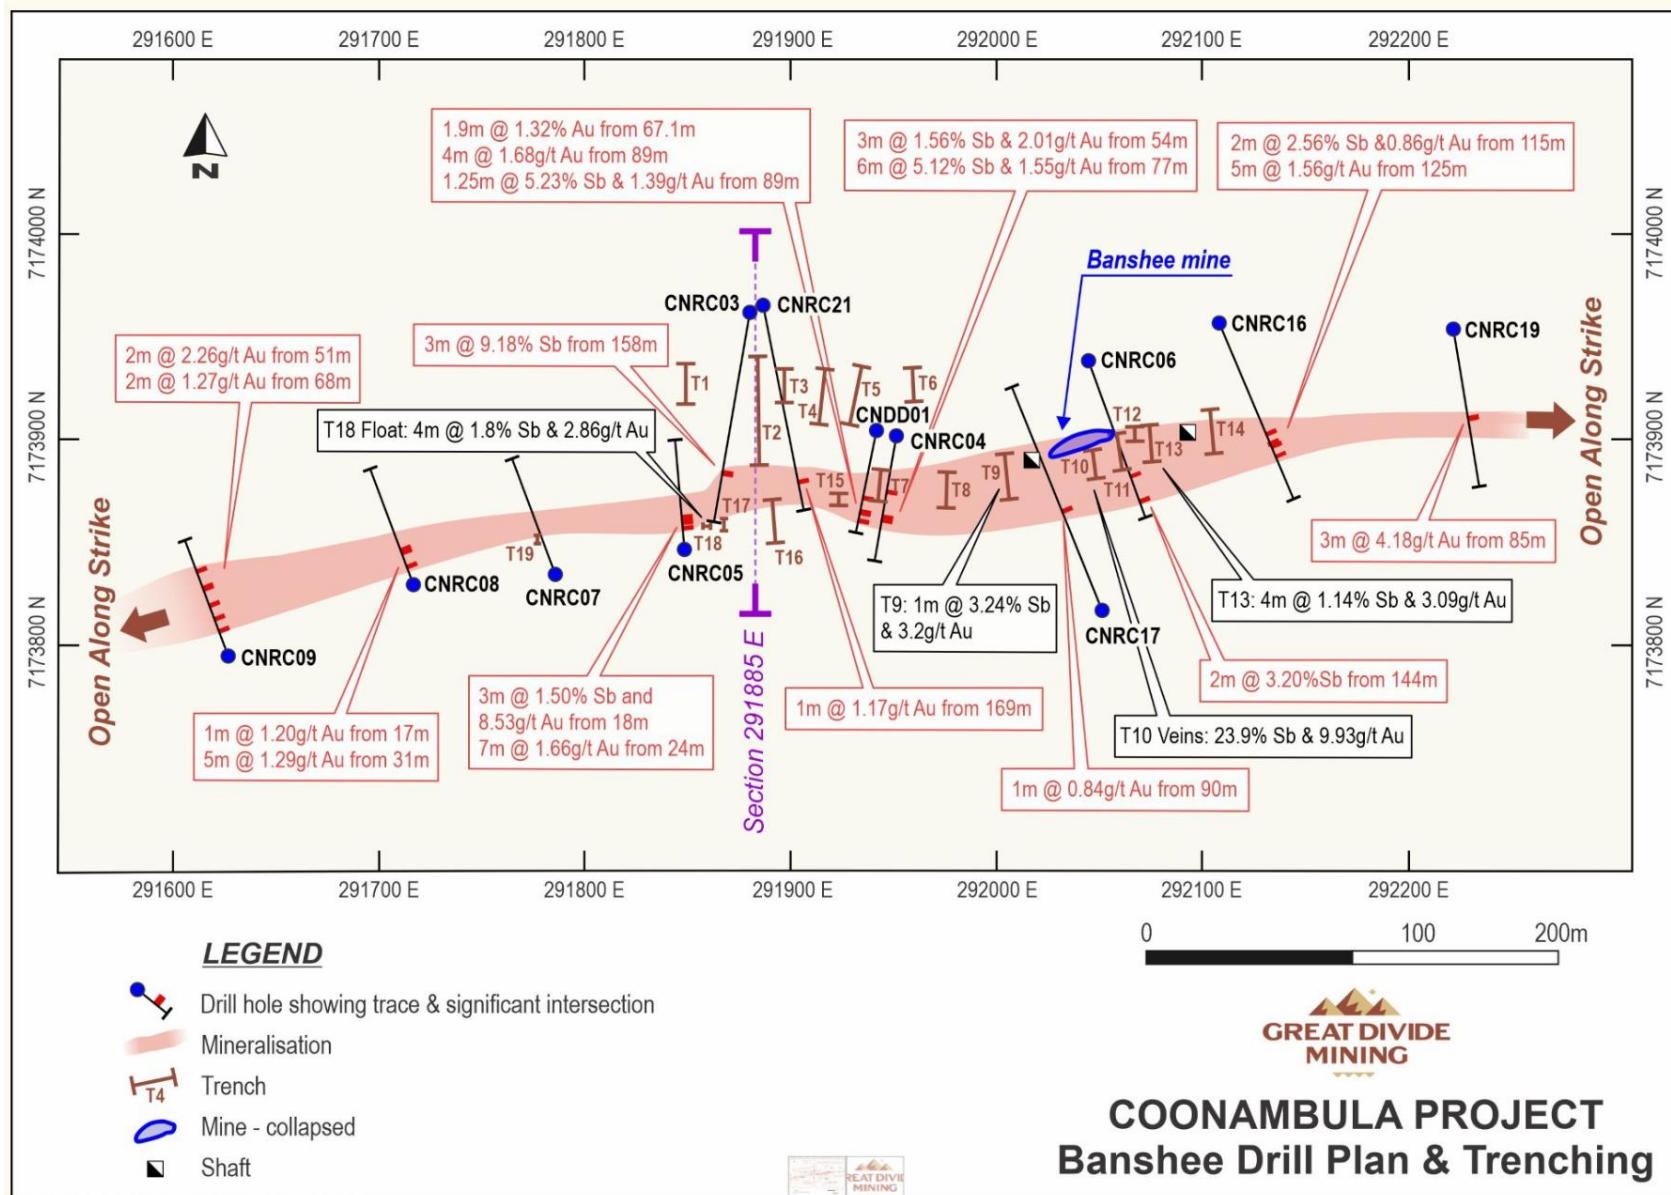

Figure 6 - Banshee drill results plan and 2024 trenching results (ASX: GDM to Farm-Out Coonambula Antimony-Gold Project - Mar 2025)
- Surface trenching includes **4m@ 3.09g/t Au and 1.14% Sb** and **1m @ 6.15 g/t Au and 3.1% Sb**. While trenching, selective rock chips returned **3.65g/t Au with 23.9% Sb**, and **9.93g/t Au with 7.56% Sb** (ASX: GDM Nov 2024) - Figure 6.